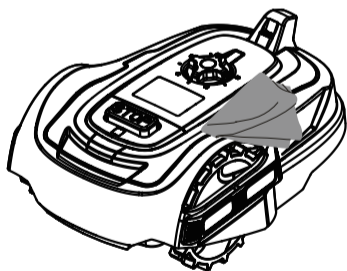
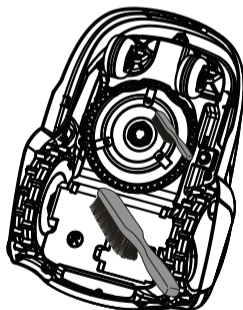

Fig. 5-1-1
Fig. 5-1-2
- Use a low-pressure washer and a soft brush or towel to clean the front part (Fig.5-1-1, Fig.5-1-2).